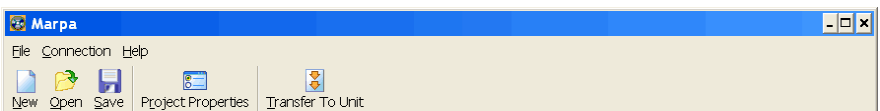

Figure 51 – Buttons on the MARPA tool bar
9) Click the Save button (Figure 51) to save the MARPA project.
- iv) Click the “Transfer to Unit” button in MARPA (Figure 51).